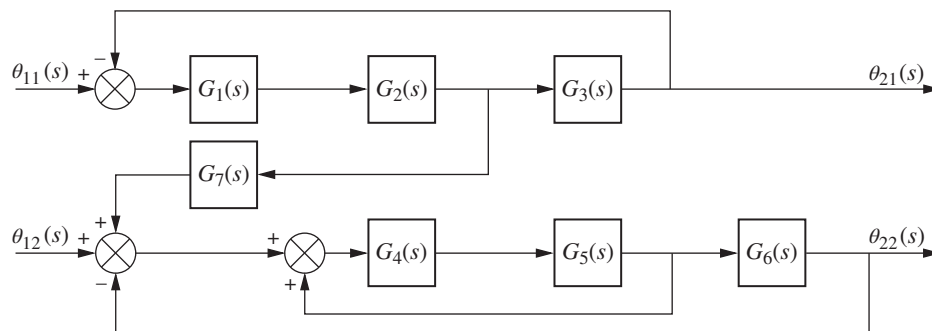

FIGURE I-5.4
4. Given the block diagram of a system shown in Figure I-5.4, find the transfer function  $G(s) = \theta_{22}(s)/\theta_{11}(s)$ . [Section: 13.2]